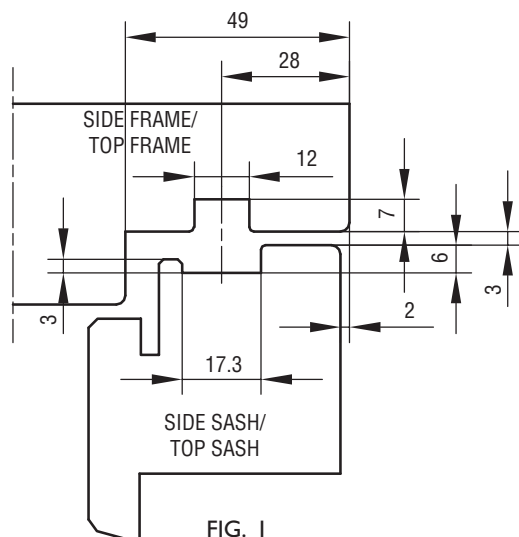

FIG. 1
1. SIDE SASH & -FRAME AND TOP SASH & -FRAME ARE MADE WITH THROUGH-GOING GROOVES, SEE FIGURE 1.